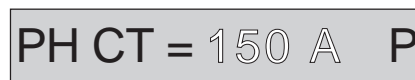

Figure 42: New setting flashes
3. Use the *value-* and *value+* buttons to scroll through the possible settings. The new value flashes on the display until it is stored (figure 42).